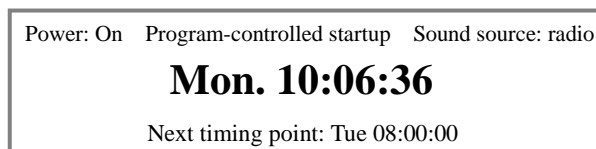

Fig. 1: Main interface
1. The interface (referred to as "main interface" in this manual) shown in figure 1 can be entered after starting up, and following operations can be conducting in this interface.